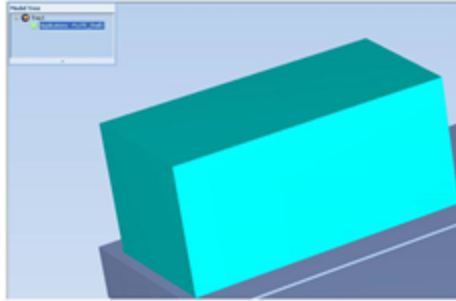

Figure 5-51 Model displayed with bounding box
- With a *Bounding Box* (see Figure 5-51 on page 5-45)